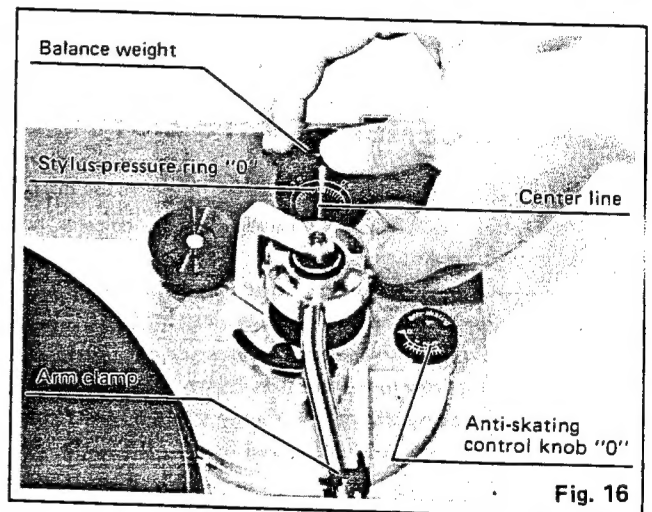

Fig. 16
- During the adjustment of the horizontal zero (0) balance, be careful that the stylus tip of the cartridge does not contact the turntable mat or turntable base.
4. After the tonearm is horizontally zero (0) balanced, temporarily refasten the tonearm with the arm clamp.
The adjustment of the horizontal zero (0) balance is now completed. (See Fig. 16.)
6. After adjusting the horizontal zero (0) balance, turn the balance weight clockwise in the direction of the arrow and align to the correct stylus pressure. (See 17.)